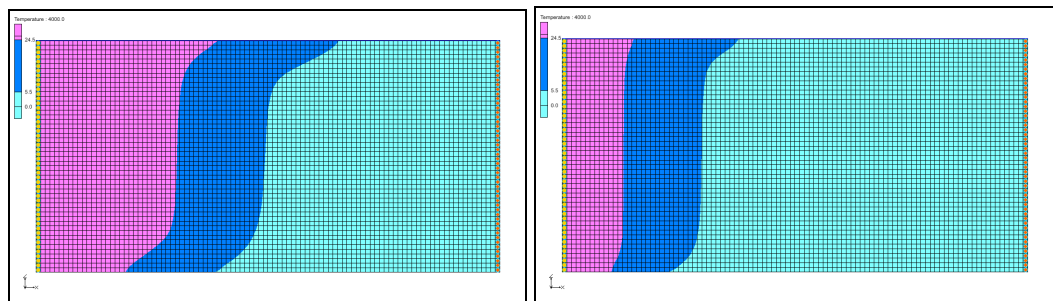

Figure 2 Comparison of **case3** and **case4** Temperature Fields
2. Select all the cells on the east side of the model (Figure 2). You can do this by dragging a box around the cells as shown below.